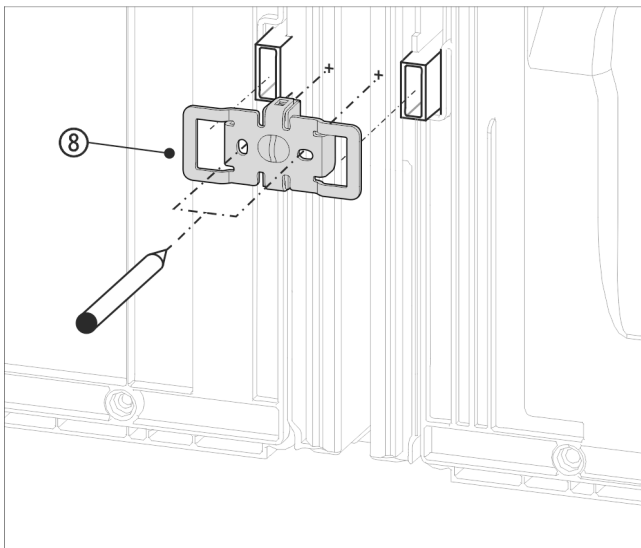

Fig. 20 Example illustration
- ▶ Slide the bracket *Fig. 20 (8)* on with the slots over the retainer for the wall spacers.